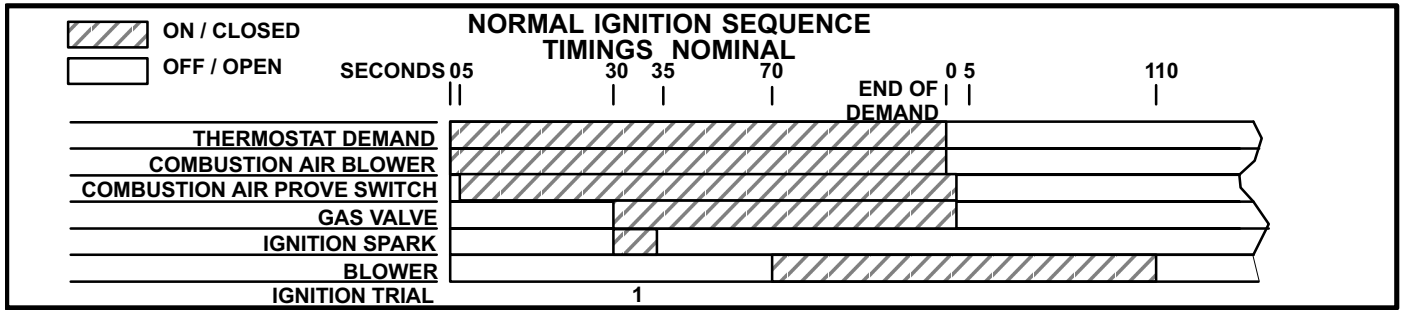

FIGURE 10
- c- The ignition control provides three main functions: gas valve control, ignition and flame sensing. It is powered only after the combustion air prove switch has closed. The ignition attempt sequence provides three trials for ignition before locking out. The blower control (K25) is energized simultaneously with the gas valve, so the blower will energize 30 to 45 seconds after flame has successfully been established. The unit will usually ignite on the first attempt. See figure 10 for a normal ignition sequence with nominal timings for simplicity.